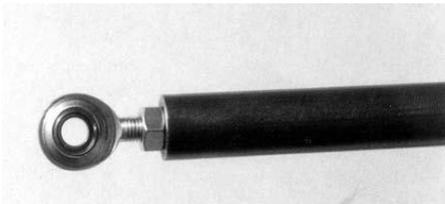

Figure 1
4. Bolt in the new hood braces. First, set the length by adjusting the rod end to show 1/4" of exposed thread. (FIGURE 1) Bolt the rod ends into the stock holes at the back of the hood, with the bars lying forward. Assemble the pivot bar into the two hood braces. Put three washers between the rod end and the mount (FIGURE 2) on each bar. With the pivot bar mocked up, measure from the inside hood edge to the mount flange on the hood brace, move the braces until both sides measure the same. Clamp the mount flanges and drill out three 1/4" holes in each side. Slide the thread plate under and bolt the braces to the hood (FIGURE 3 AND 4)